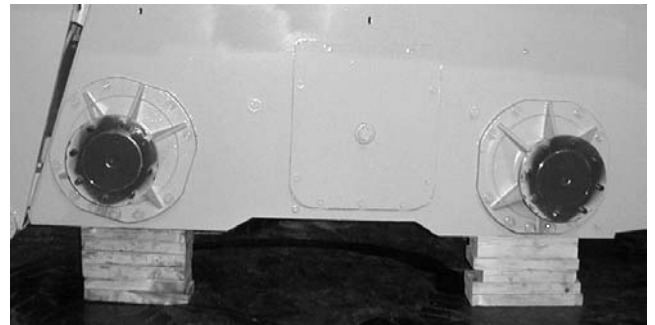

Fig. 7-1: Skid Loader Properly Blocked
3. Stack wooden blocks under the flat part of the loader chassis. They should run parallel with, but not touch, the rear tires (fig. 7-1).